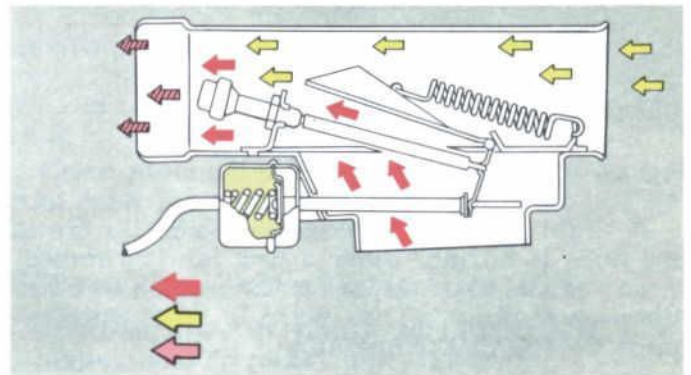

Fig. 19 — Duct and Valve Assembly in Partial Heat-On Position — Cold Acceleration
During cold acceleration periods, additional carburetor intake air is provided by the vacuum motor control. The decrease in intake manifold vacuum during acceleration permits the vacuum motor to override the thermostat control. This opens the system to both engine compartment air and heated air from the exhaust manifold shroud (Fig. 19).
1. With the duct assembly installed on the vehicle, cold engine, and ambient temperature in the engine compartment less than 100 degrees F., the valve plate should be in approximately *one-half heat-on position* (Fig. 19).